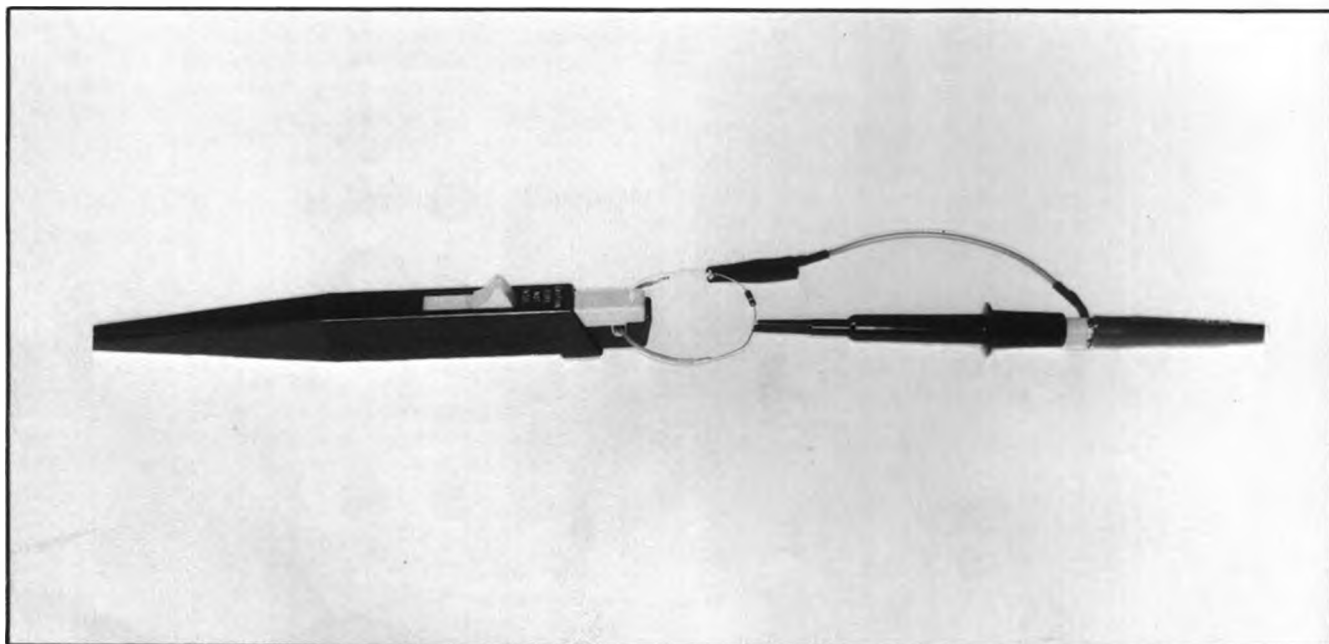

Fig. 6-9. Test setup for step 8.
- d. Connect the 1× probe across the 10 Ω resistor. See Fig. 6-9.